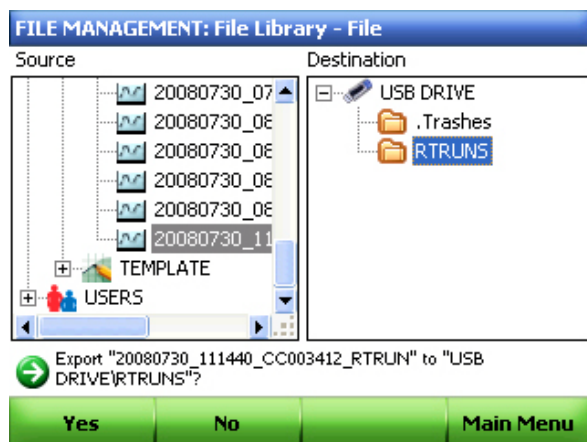

Figure 48. Confirming export to USB key.
6. Click **Yes** (F1) to confirm the export (Figure 48).